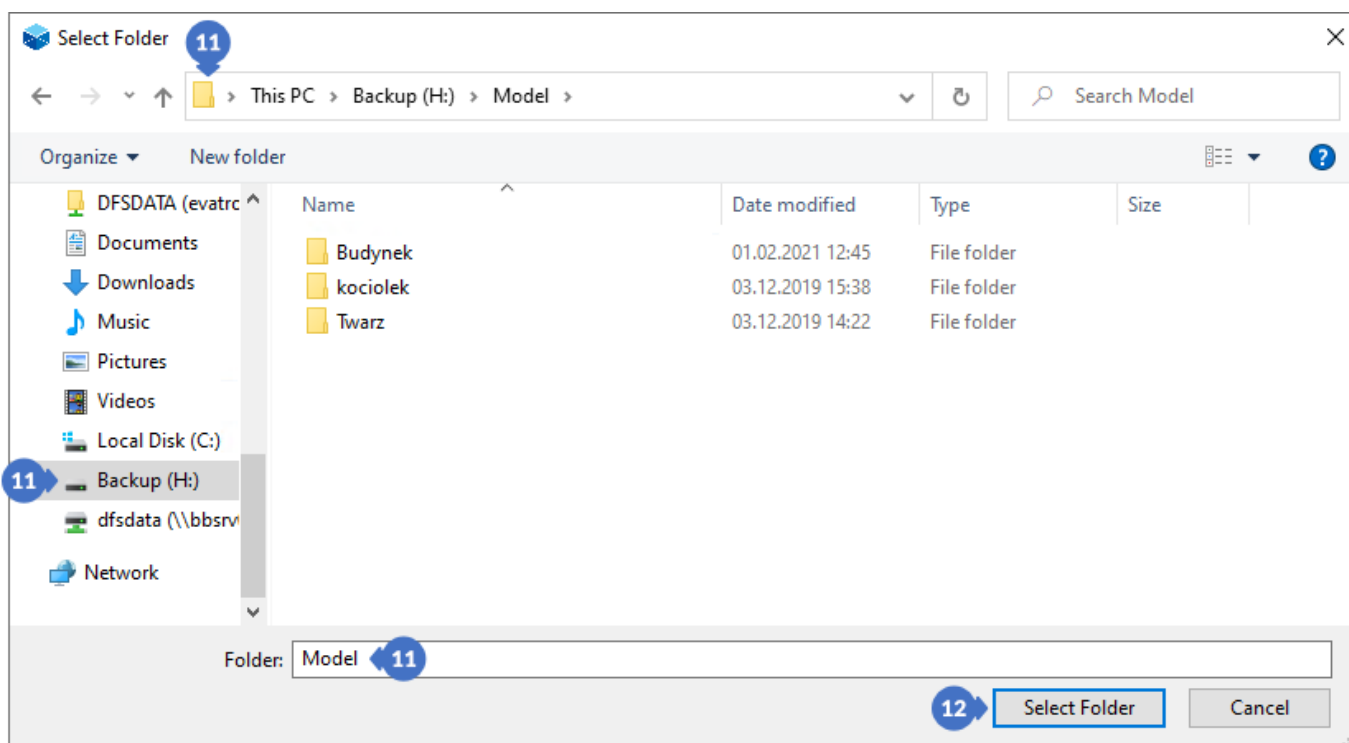

Figure 199. Export files – select destination
When exporting, the following extensions can be selected (8): *.asc, .bin, .evx, .glb, .obj, .ply, .stl, .wrl*. The *BROWSE* button (9) is used to select the path to be exported (it can also be entered manually into the text field (9)). After clicking on *BROWSE* (9), a window will appear in which you can select a folder (11) (Figure 199) and click on *Select folder* (12).